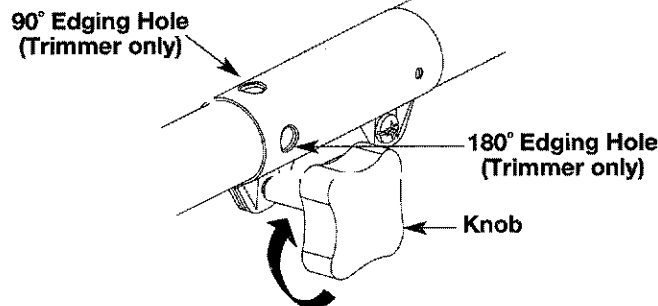

Fig. 25
3. Turn the knob clockwise to tighten (Fig. 25).
For edging when using the line head cutting attachment with EZ-Link™ models, lock the release button of the cutting attachment into the **90° edging hole** or the **180° edging hole** (Fig. 25).